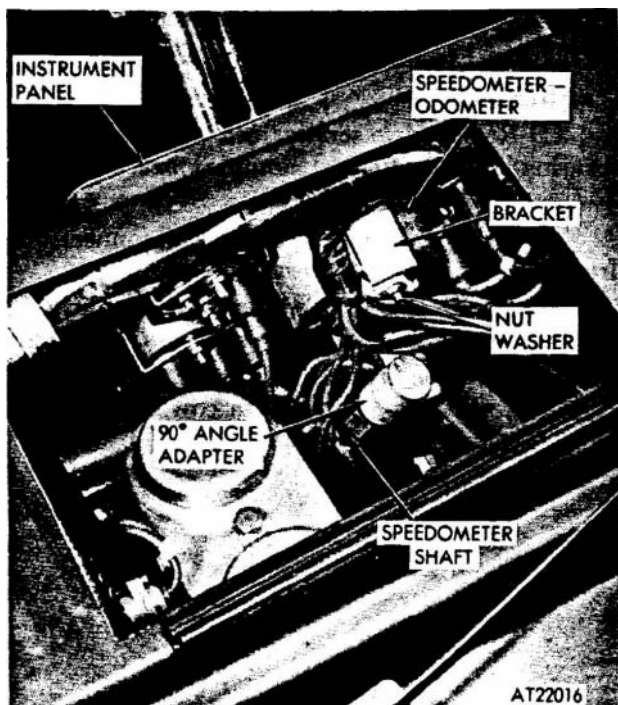
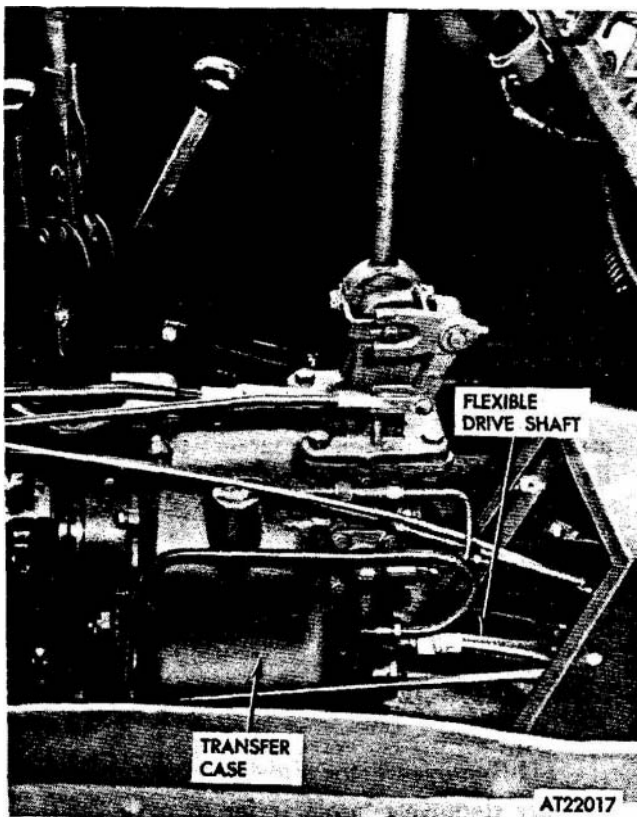

Figure 2-364. Speedometer - odometer, removal and installation.
Figure 2-365. Flexible drive shaft disconnect at transfer case.
(1) Remove four screws securing instrument panel to dash and pull panel outward. Disconnect shaft from speedometer 90° angle adapter. Loosen screw and remove 90° adapter (fig 2-364).
(2) Remove speedometer by removing two nuts and lock washers securing mounting clamp and speedometer to panel.
(1) If new, remove two nuts and lock washers securing mounting clamps to speedometer. Insert and position speedometer in mounting hole of panel and install mounting clamp with lock washers and nuts securing assembly to instrument panel (fig 2-364).
(2) Lightly grease input and output of 90° adapter (refer to LO 9-2320-242-12).
(3) Turn adapter to proper angle to mate shaft assembly and tighten adapter screw. Connect flexible shaft assembly to adapter and secure connector nut hand tight.
(4) Position instrument panel to dash and secure with four screws.
(5) Drive vehicle at various speeds and check speedometer operation.
(1) Remove tractor seats (refer to para 2-221).
(2) Remove console (refer to para 2-33).
(3) Remove four screws securing instrument panel to dash and pull panel outward. Disconnect shaft from 90° angle adapter. Loosen screw and remove adapter (fig 2-364).
(4) Remove sixteen screws securing right panel to air duct. Remove panel.
(5) Remove speedometer flexible drive shaft by disconnecting shaft at transfer case (fig 2-365).
(1) Lightly grease input and output of 90° adapter (refer to LO 9-2320-242-12). Loosen screw on adapter and install on speedometer (fig 2-364).
(2) Route shaft assembly (round core end towards transfer case) through air duct to speedometer. Position shaft assembly to eliminate sharp bends and interference with components. Connect shaft to transfer case (fig 2-365).
(3) Turn 90° adapter to proper angle to mate shaft assembly and tighten adapter screw. Connect shaft assembly to adapter and secure connector nut hand tight.
(5) Install console (refer to para 2-33).
(6) Install tractor seats (refer to para 2-221).